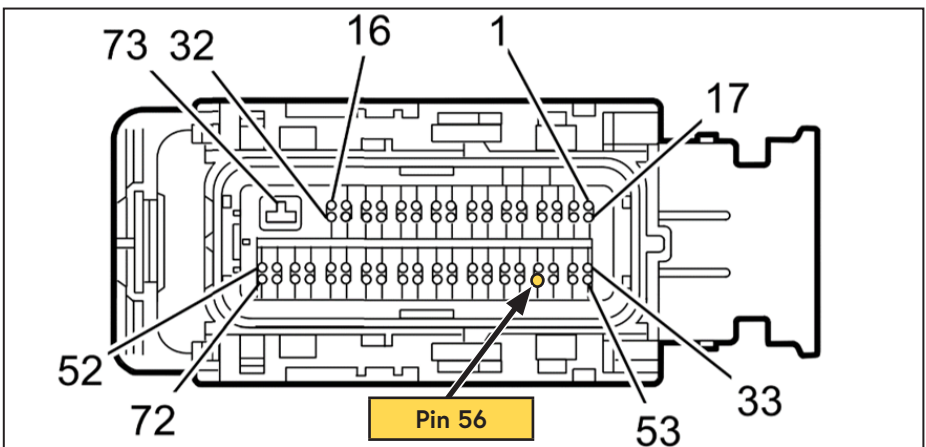

Figure 6 — ECM connector X2 (connector "face" view)
- Locate the white wire with black stripe going to pin 56 in the ECM X2 connector (Figure 6).